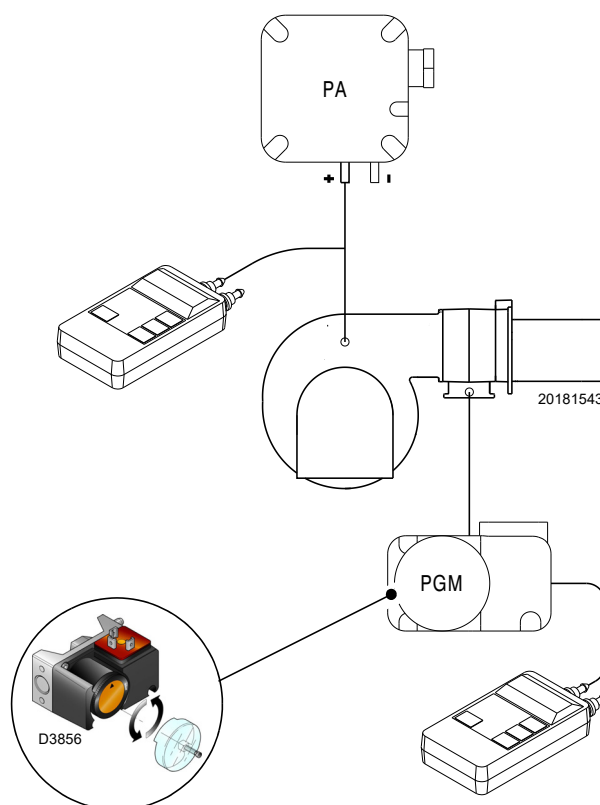

Fig. 34
- Adjust the maximum gas pressure switch (Fig. 34 at page 33) to the end of the scale.
Adjust the maximum gas pressure switch (Fig. 34) after making all other burner adjustments with the maximum gas pressure switch set to the end of the scale.